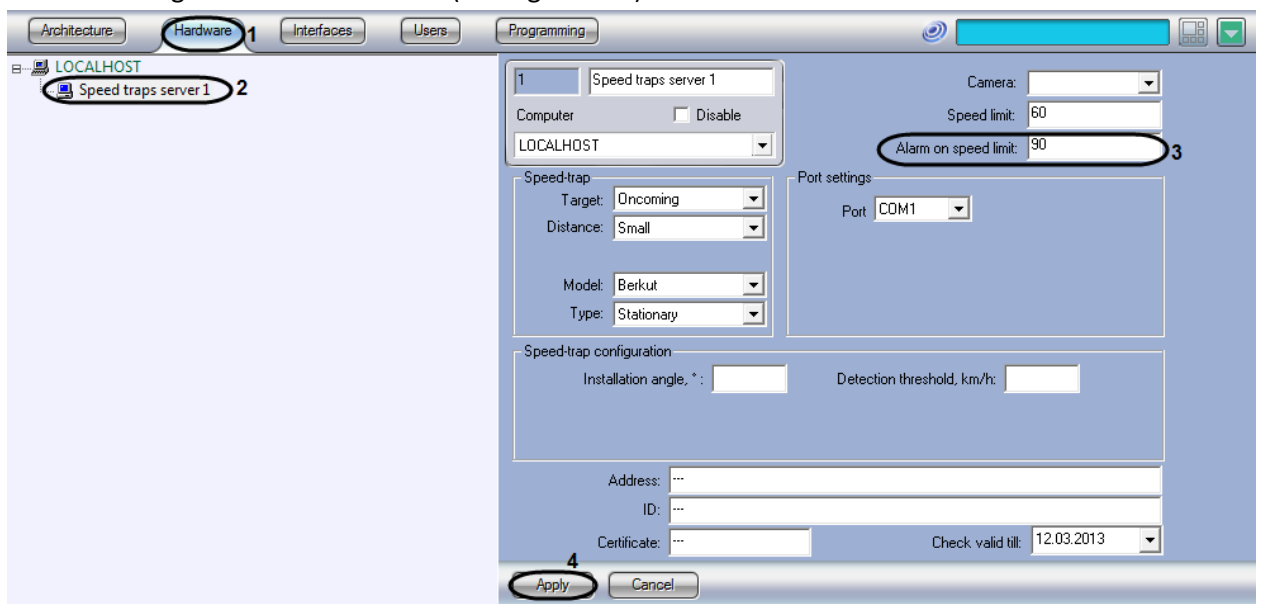

Fig. 7.3—3 Speed limit setup
2. In the object tree on the left side of the Hardware tab, select the Speed-trap server object representing the Radar module to be set up. The settings panel of the selected object will open on the right side of the window (see Fig. 7.3—3).